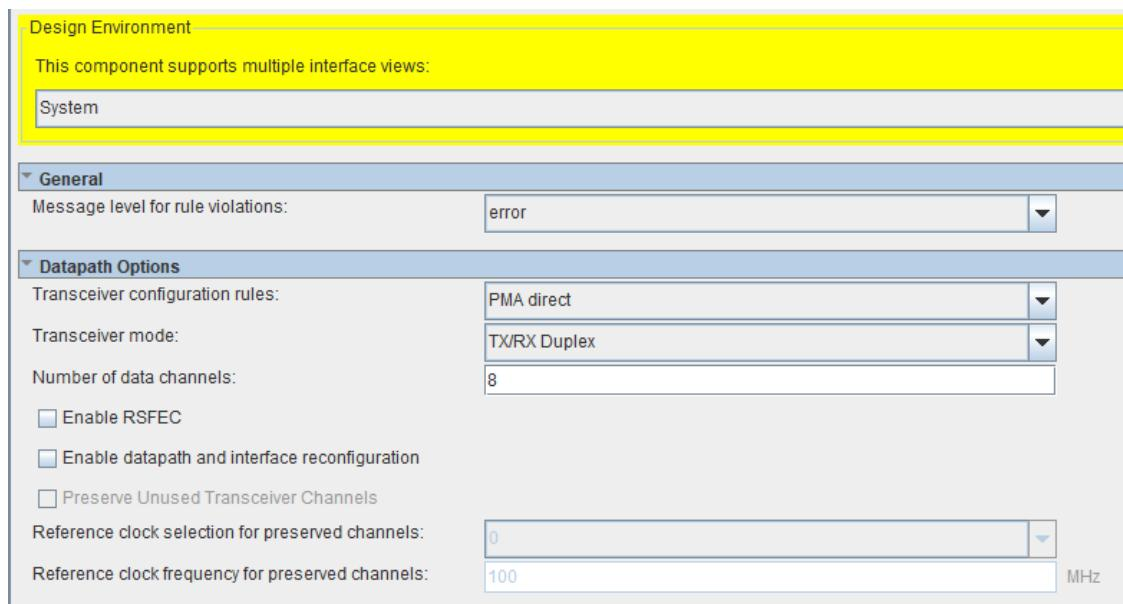
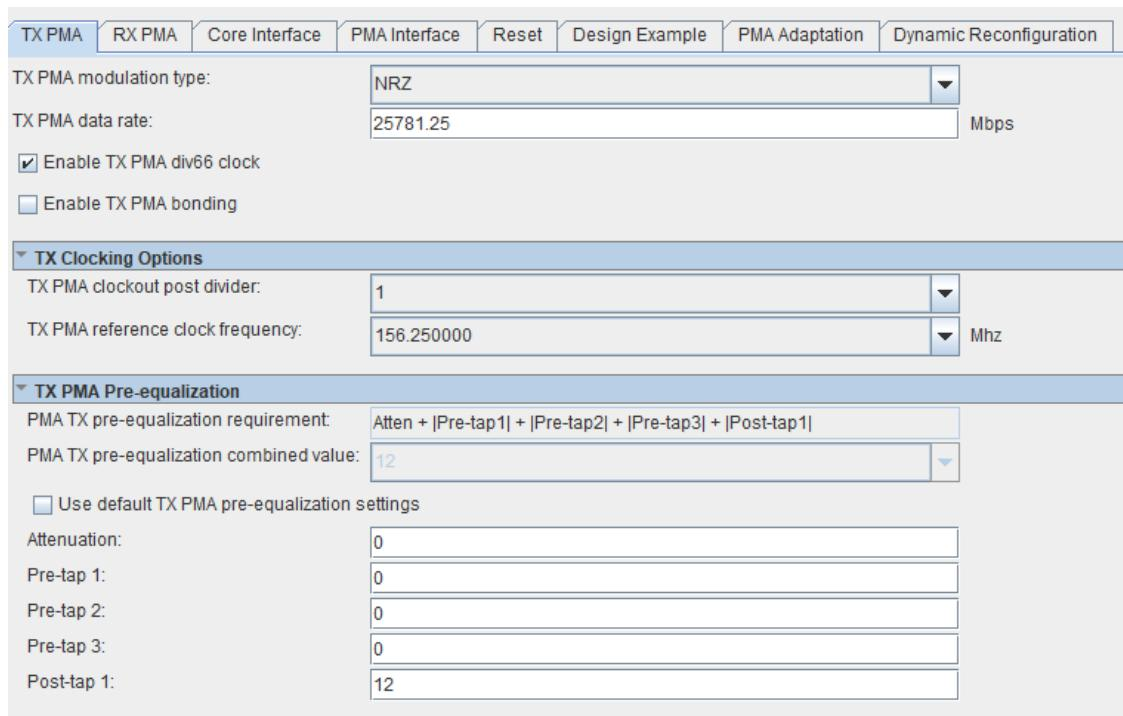

Figure 9-3 The Transceiver PHY setting
Figure 9-4 The Transceiver PHY setting
**Figure 9-3** and **Figure 9-4** shows the Transceiver Native PHY IP settings in the test code. The data rate of each transceiver channel is set to 25781.25 Mbps and the PMA modulation type is **NRZ**. So the 200Gbps QSFP-DD loopback test code is implemented (8 channels in total).